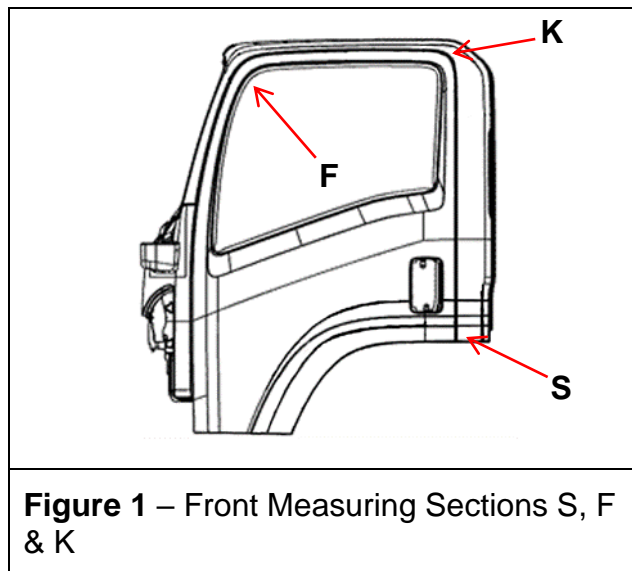

Figure 2 –Top front corner of door
1. Measure the offset and gap of the doors at the locations shown in Figure 1. Specifications are shown in Table 3. Measurements are made using two metric rulers as shown in Figures 2, 3 & 4.